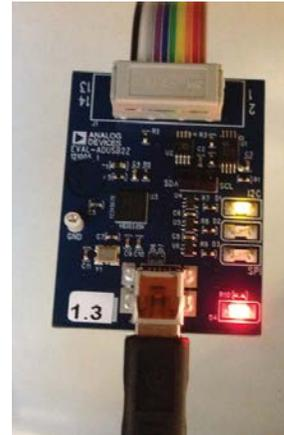

Figure 8. State of USBi Status LEDs After Driver Installation
- With the USBi still connected to the USB 2.0 port of the PC, check that both the yellow I²C LED and the red power indicator LED are illuminated (see Figure 8).